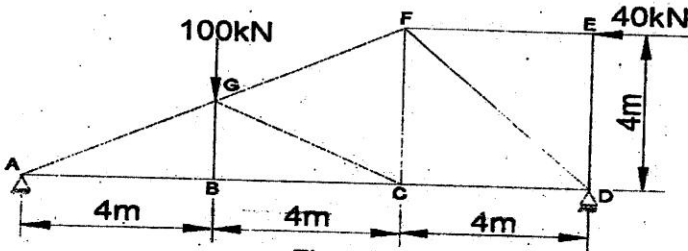

Figure -1
10. Calculate the reliability of the system as shown in figure-1. (15)
1. Analyse the frame shown in figure-1 to determine the forces in all the members of the frame.